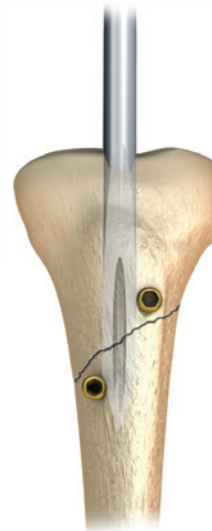

Figure 44
3. Confirm proper screw placement (Figure 44).